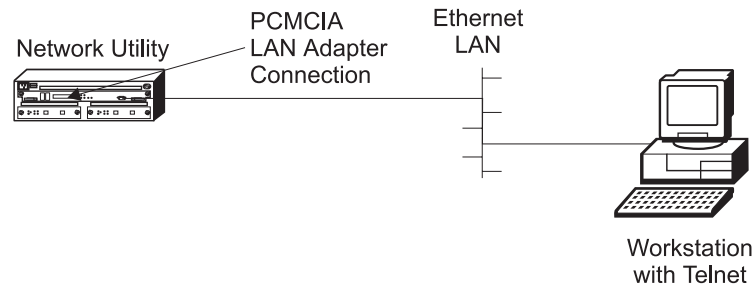

Figure 7-4. LAN Connection through the PCMCIA LAN Adapter. This connection type is only available for the Network Utility.
- Local cable from a Network Utility PCMCIA LAN adapter (an IBM EtherJet PC card) to a workstation using a local Ethernet hub. Figure 7-4 on page 7-3 shows a version of this configuration.